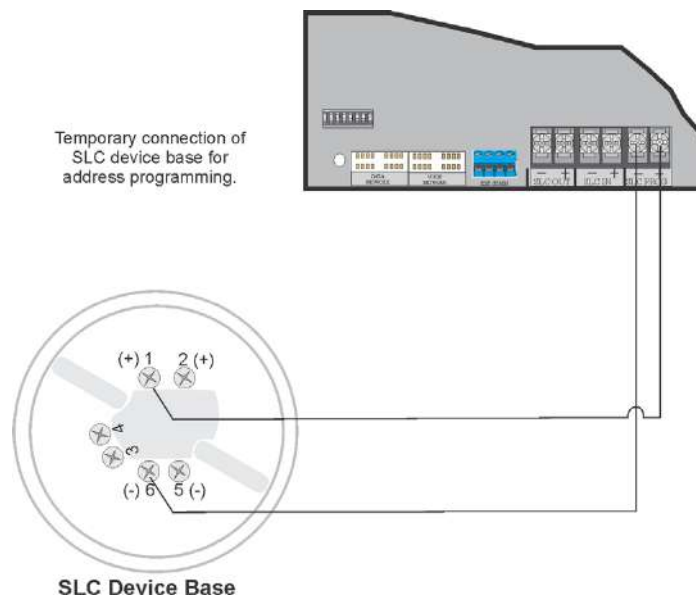

Figure 7.6 Temporary Connection of Detector Base to Panel for Addressing
- Connect a detector base temporarily to the programming terminals as shown in Figure 7.6. (You can use the same base for each detector.